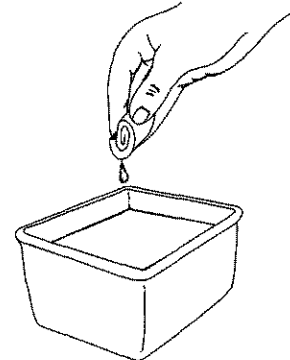

Fig. 31
3. Wash the filter in detergent and water (Fig. 31). Rinse the filter thoroughly. Squeeze out excess water. Allow it to dry completely.